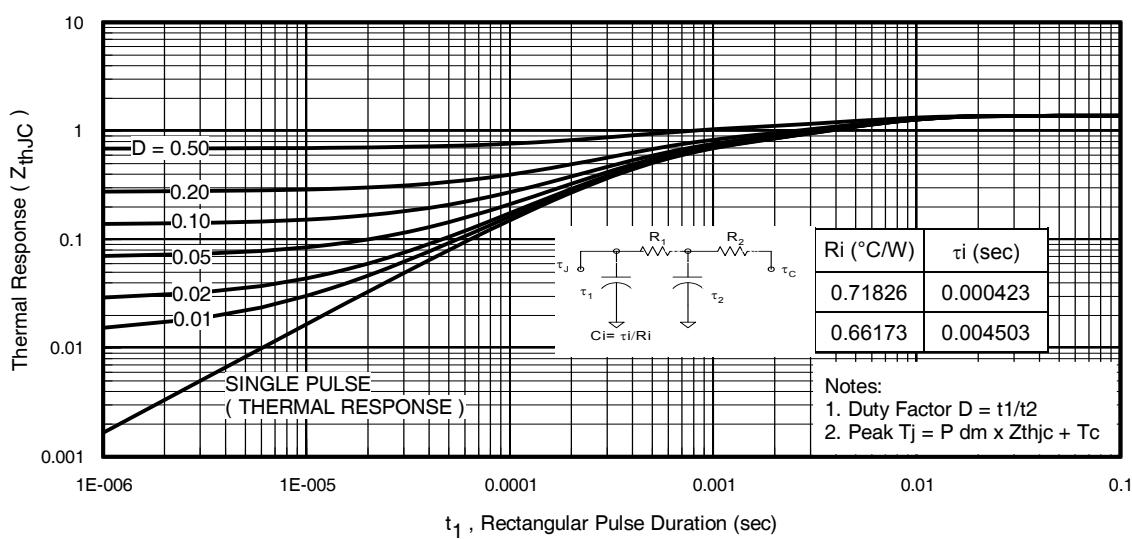
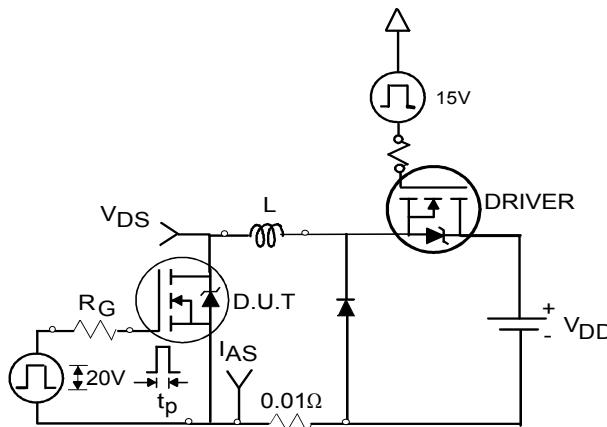

Fig 11. Maximum Effective Transient Thermal Impedance, Junction-to-Case
Fig 12a. Unclamped Inductive Test Circuit
- ① Repetitive rating; pulse width limited by max. junction temperature. (See fig. 11)
- ② Limited by $T_{J\max}$, starting $T_J = 25^\circ\text{C}$, $L = 0.21\text{mH}$, $R_G = 25\Omega$, $I_{AS} = 30\text{A}$, $V_{GS} = 10\text{V}$. Part not recommended for use above this value.
- ③ Pulse width $\leq 1.0\text{ms}$; duty cycle $\leq 2\%$.
- ④ $C_{oss\ eff.}$ is a fixed capacitance that gives the same charging time as C_{oss} while V_{DS} is rising from 0 to 80% V_{DSS}
- ⑤ Limited by $T_{J\max}$, see Fig.12a, 12b, 15, 16 for typical repetitive avalanche performance.
- ⑥ This value determined from sample failure population. 100% tested to this value in production.
- ⑦ When mounted on 1" square PCB (FR-4 or G-10 Material). For recommended footprint and soldering techniques refer to application note #AN-994
- ⑧ R_θ is measured at T_J approximately 90°C
- ⑨ Calculated continuous current based on maximum allowable junction temperature. Package limitation current is 42A.
3. Equation below based on circuit and waveforms shown in Figures 12a, 12b.